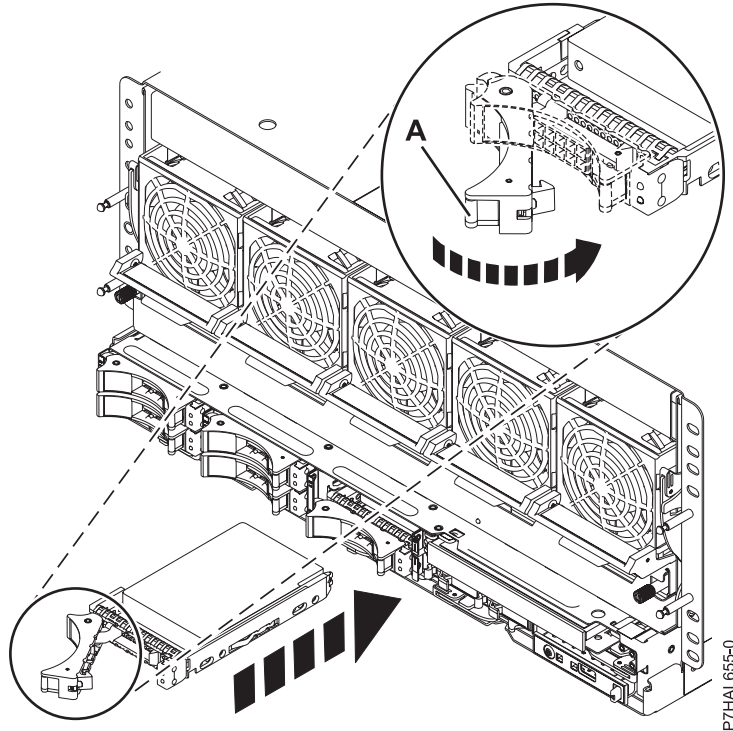

Figure 25. Replacing a disk drive in the system
7. When the identify LED flashes, slide the disk drive or solid-state drive all the way into the system or an expansion unit, and push the drive handle (A) in until it locks, as shown in Figure 25 on page 45.